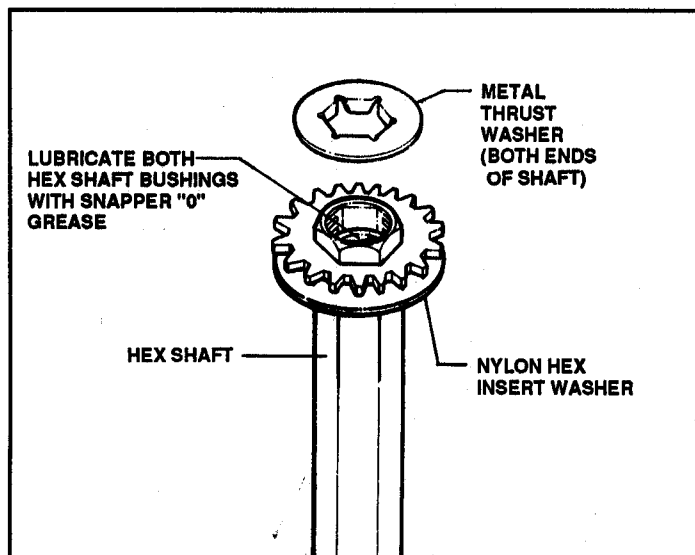

FIGURE 4.28
15. Install metal thrust washer on both ends of hex shaft. See Figure 4.28.
THE THRUST WASHER SHOWN IN FIGURE 4.28 SERVES AS A BEARING SURFACE BETWEEN THE BULLGEAR ASSEMBLY AND HEX SHAFT; IF OMITTED DURING ASSEMBLY, IT CAN CAUSE EXCESSIVE WEAR OF THE HEX SHAFT AND MAY CAUSE THE SPROCKET TO FALL OFF!